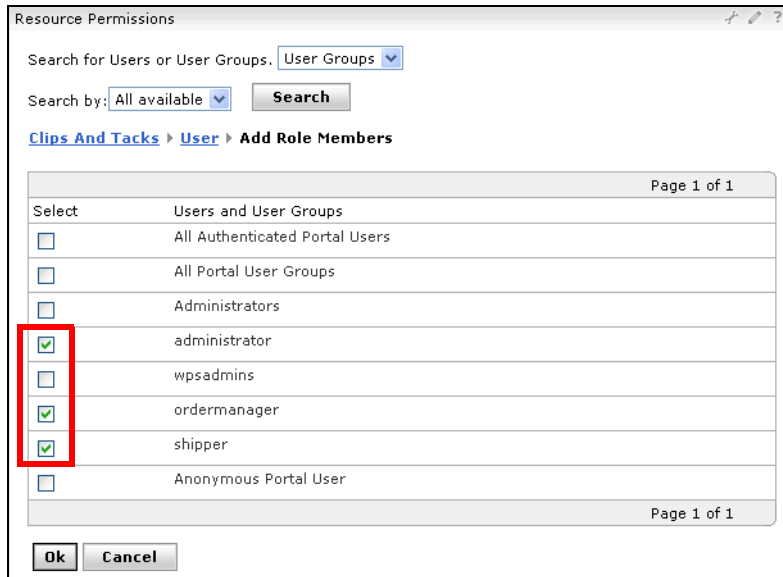

Figure 14-89 Selecting groups for a portal page
- Search for all available user groups. Select the appropriate groups and click *OK* (Figure 14-89). You could also search for users by user ID, name, and so forth.